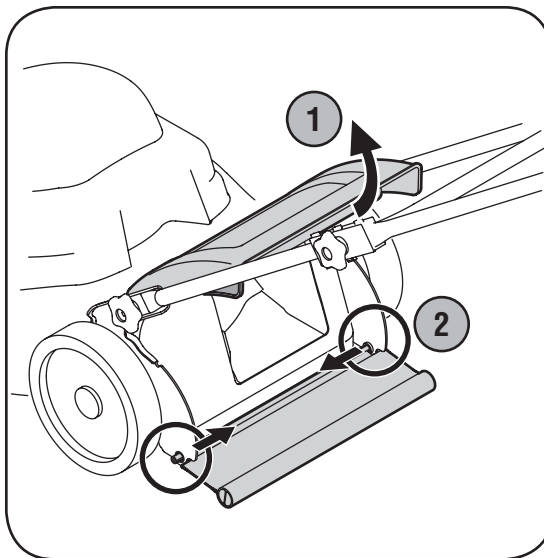

Figure 5-2: Remove the trail shield.
1. To remove trail shield, lift rear door, and press shield in on either side to remove from hole. See Figure 5-2.